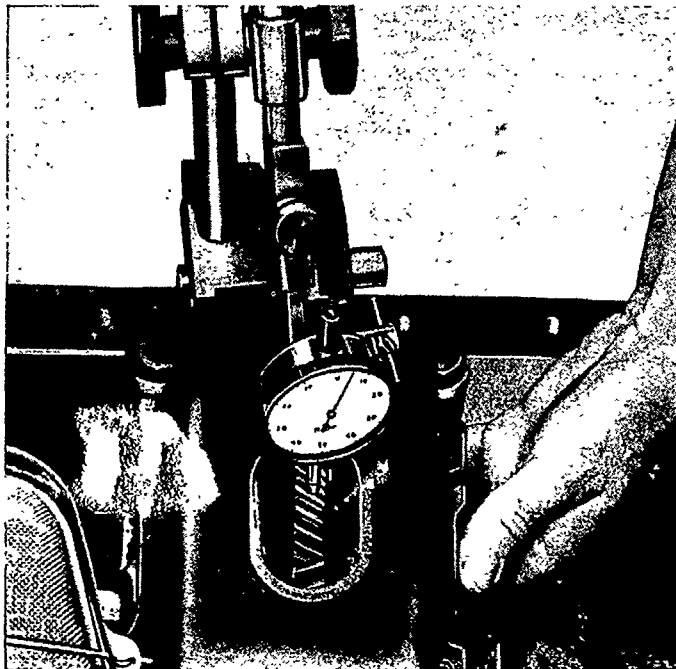
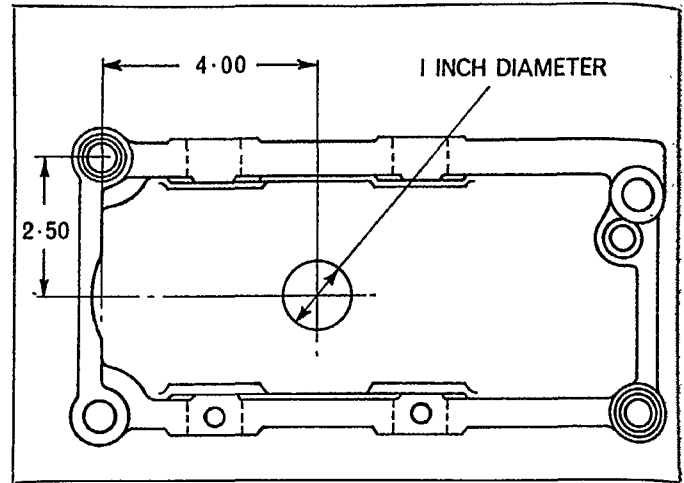

Figure 59
Figure 60
3. With the balancer mounted to the engine block, check the backlash between the balancer drive gear and crankshaft dynamic balancer gear. To do this, use a dial indicator as shown in Figure 59 with the dial plunger perpendicular against the face of one of the drive gear teeth, "rock" the drive gear to obtain the backlash. Backlash is to be taken at 90° intervals around the drive gear. On balancer supports that do not have a slot in the bottom, drill a 1.0 in. (25.4 mm.) diameter hole as shown in Figure 60. If the gears do not meet backlash specification on page 63 one or